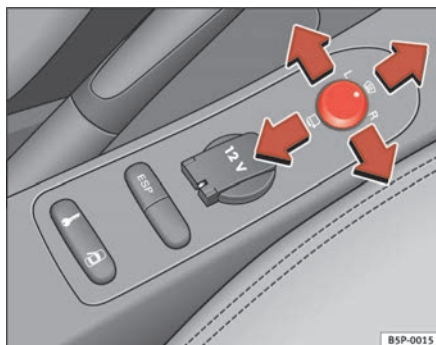

Fig. 91 Exterior mirror control
1. Turn knob ⇒ **fig. 91** to position **L (left exterior mirror)**.
- Turn the knob forwards to the central position ⇒ **fig. 91** **1** so that the heated rear view mirrors warm up and the heated windscreen* in the wiper blade rest area is activated ⇒ page 121.
- Turn the control ⇒ **fig. 91** to position  to fold in the exterior mirrors. You should always fold in the exterior mirrors if you are driving through an automatic car wash. This will help prevent damage.